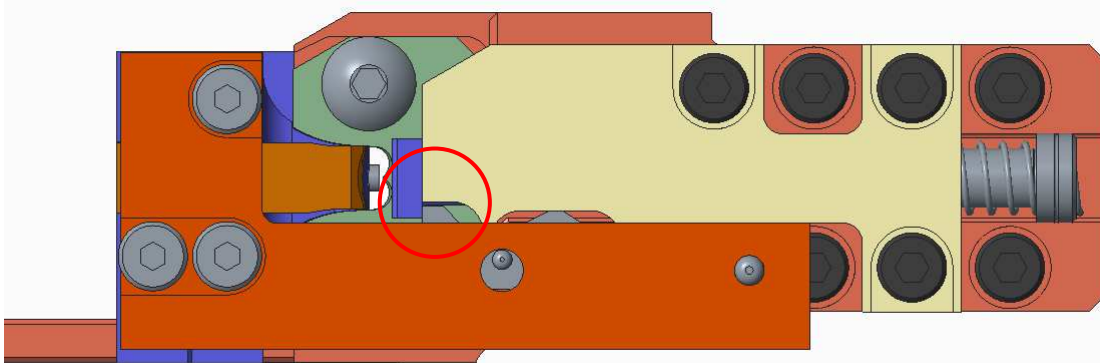

Figure 29
- d. Install the shear, plunger and retainer, as illustrated in Figure 29.
1. The plunger depresses the raised geometry on the retainer and clicks into a depressed location (see Figure 29).